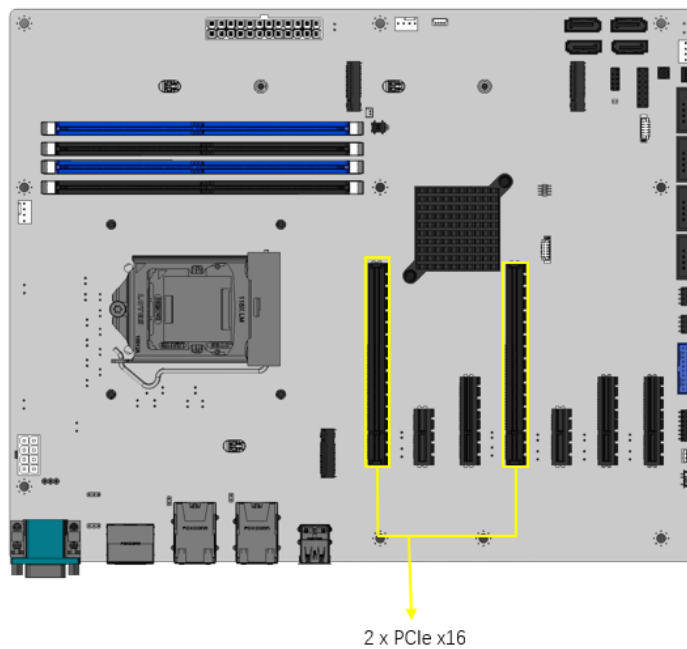

Figure 3-21: PCIe x16 Slot Locations
- CN Location:** See **Figure 3-21**